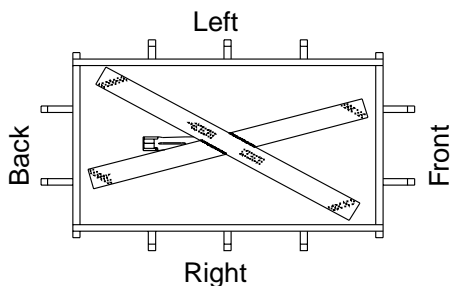

Figure 43 - Burner and Grate (Top View)
7. Figure 43 shows the top view of the burner and grate.